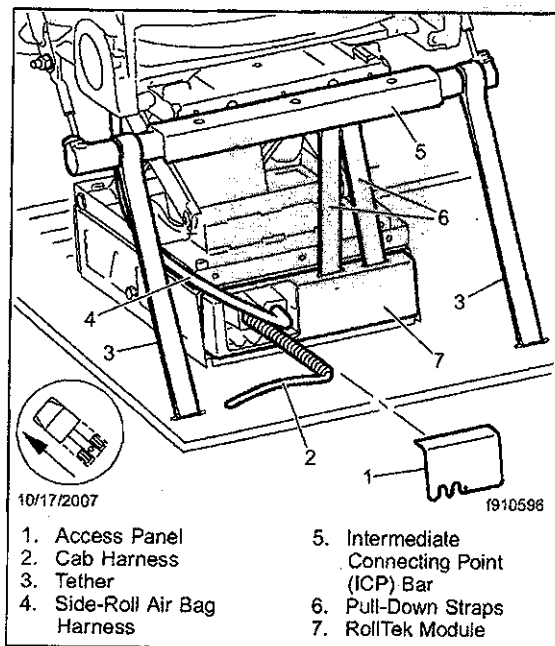

Fig. 2, RollTek Module Wiring Access
7. Remove the access panel from the back of the RollTek module. See Fig. 2.